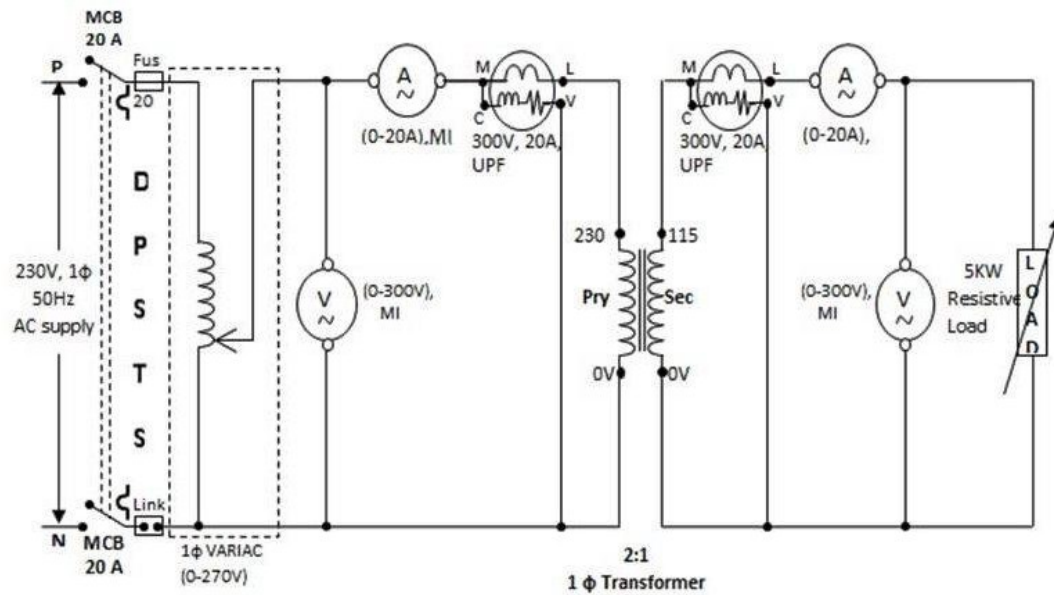

Fig 5.1: Circuit diagram for load test
1. Connections are made as per the Fig 5.1.